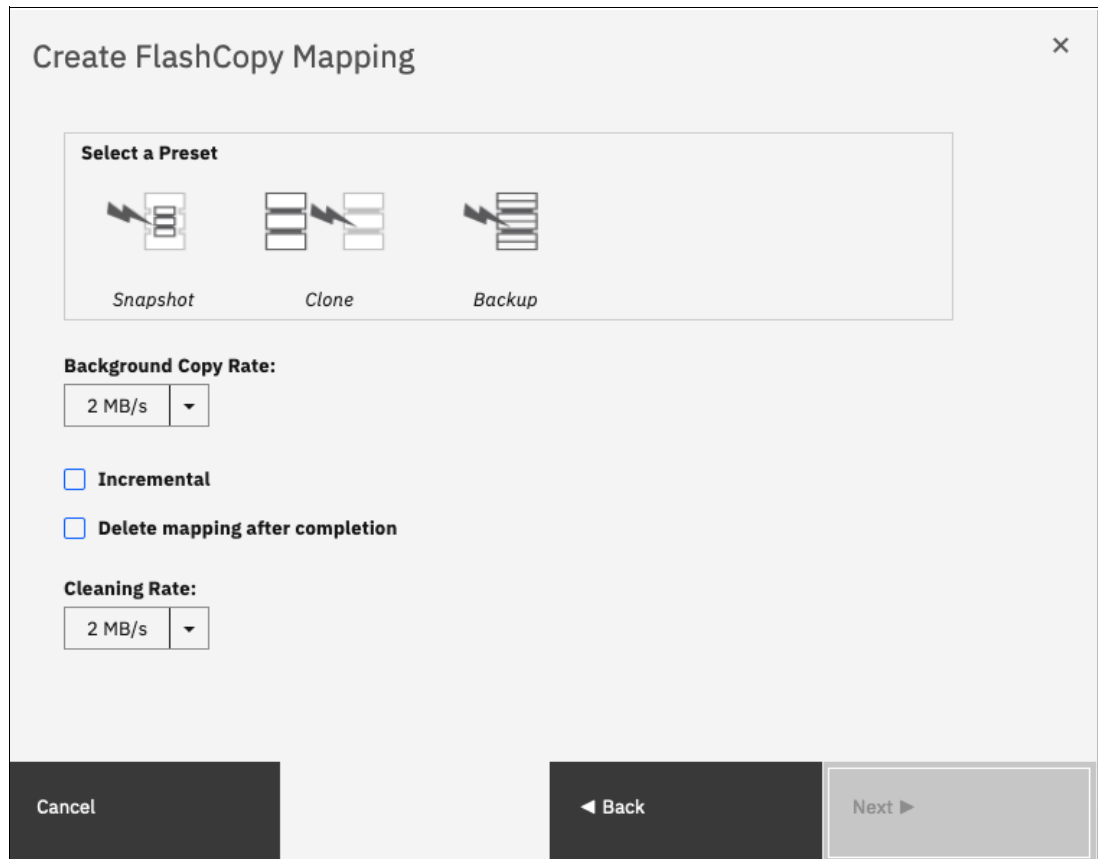

Figure 10-42 FlashCopy mapping preset selection
4. In the next window, select one FlashCopy preset. The GUI provides the following presets to simplify common FlashCopy operations, as shown in Figure 10-42 on page 699. For more information about the presets, see 10.4.1, “FlashCopy presets” on page 676: